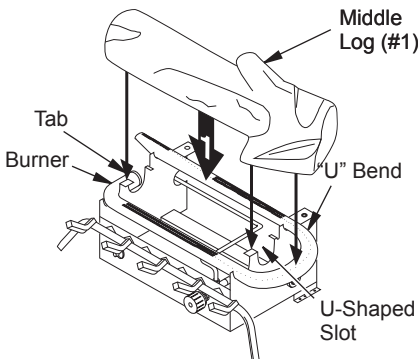

Figure 29 - Installing Middle Log (#1)
1. Place the base of the middle log (#1) in the U-shaped slots of the grate base. The cutout on the right of the middle log should fit over the burner (see Figure 29). Make sure the front of the middle log is resting on the tabs of the grate base and the cutout area is centered over the burner "U" bend.